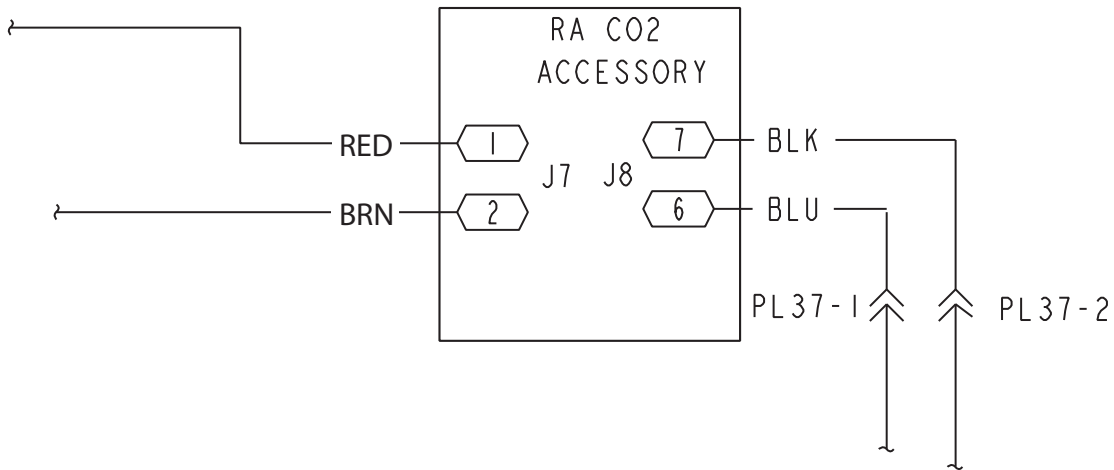

Fig. 63 — Return Air CO₂ Sensor Wiring
- Return air CO₂ sensor (Fig. 63)